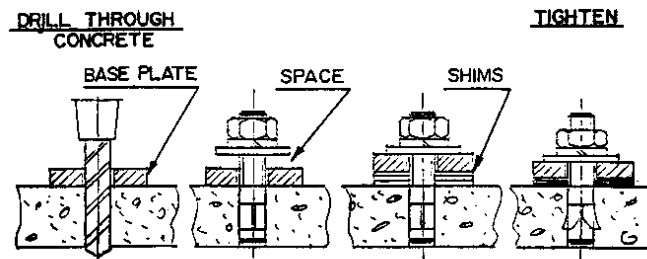

Figure 8 - Anchoring
1. Using a rotary hammer drill and a ½" concrete drill bit, drill through the floor in the six (6) anchor bolt locations on each of the base frames. Make sure that the ½" concrete drill is in good condition. Refer to Figure 8.